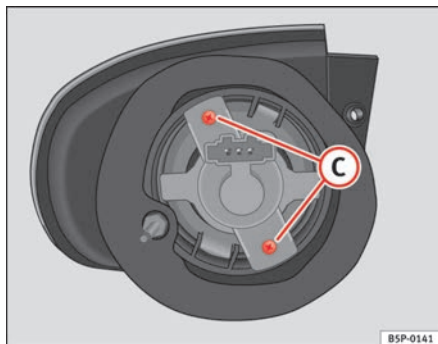

Fig. 187 Indicator light
- Unscrew the bolts ⇒ page 260, fig. 187 **C** from the lamp holder and pull on this.
- Unscrew the bolts ⇒ fig. 187 C from the lamp holder and pull on this.